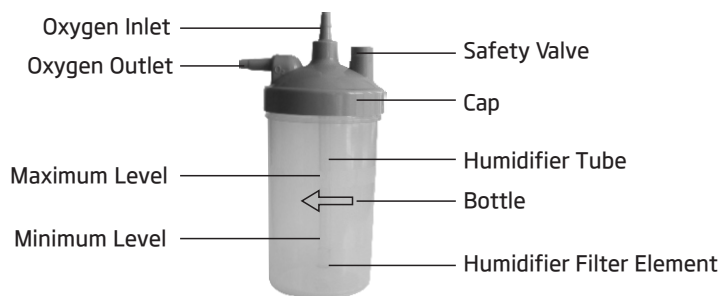

Figure 5: Humidifier Components
**DO NOT** fill humidifier bottle over MAXIMUM level. (Figure 5)